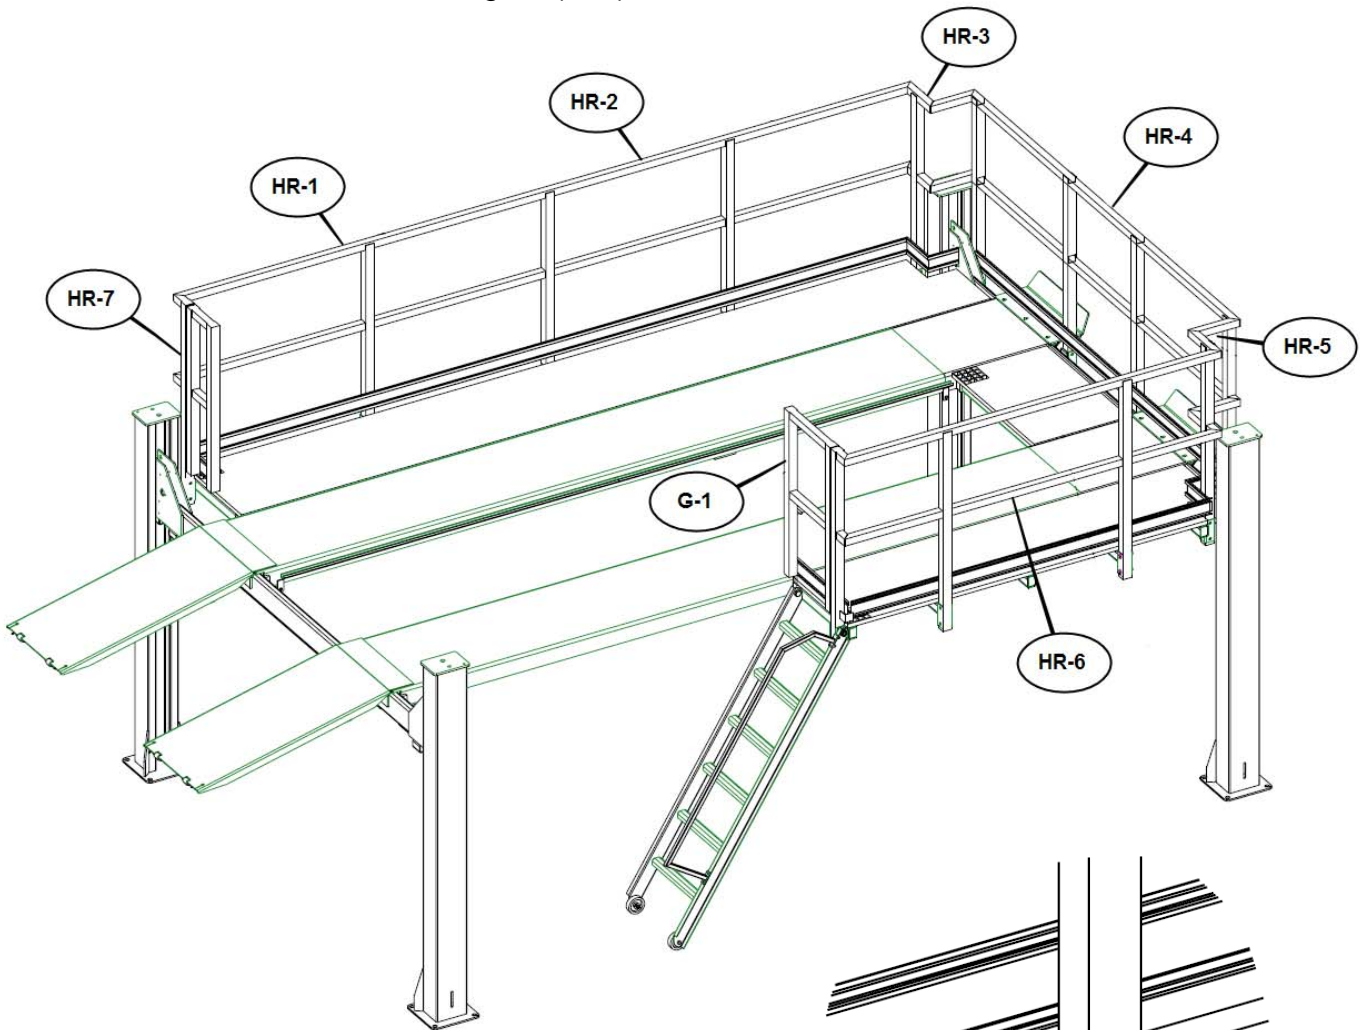

Figure 22 – Railing arrangement
6. Railing has been pre-assembled in sections. Begin installing the handrails in the order they appear in Figure 22.